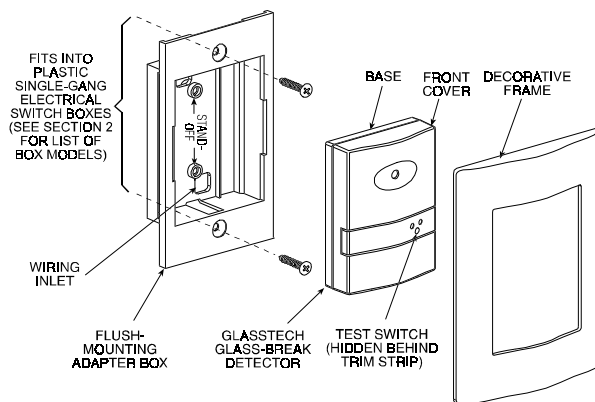

Figure 3. GlassTech -F and -AM/F, Installation with GTFK
An adapter box, a decorative frame and 4 screws are included in the GTFK kit for installation in plastic single-gang electrical switch boxes (see Figure 3 and Section 2 for details). Having disassembled the detector, proceed as follows:
- A.** Attach the detector's base to the adapter box, using two short, **countersunk head screws** (not shown in Figure 3) through the holes in the base into the two plastic standoffs in the adapter box.